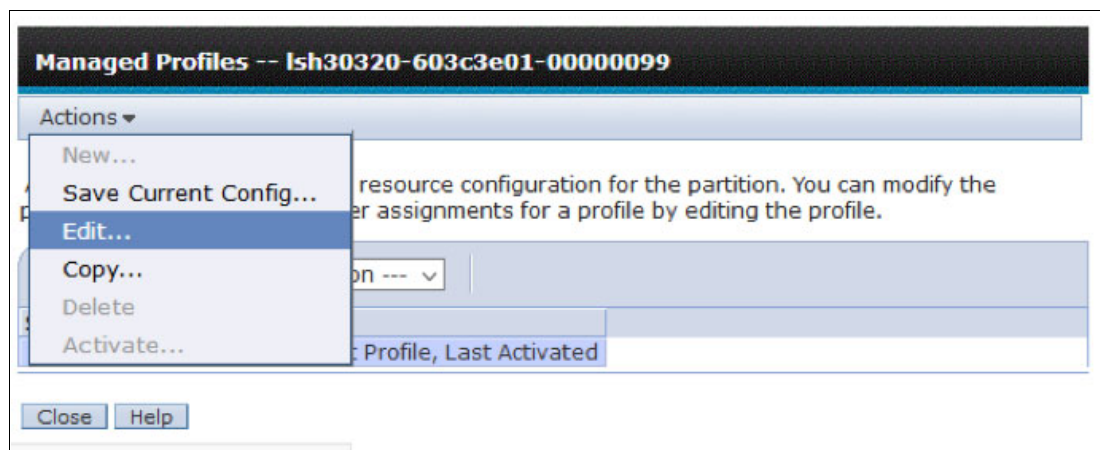

Figure 3-1 Managing Profiles window: Creating a copy of a profile
2. Select the profile to be changed and select **Actions** → **Edit**. Alternatively, create a copy of the profile, and then change the new profile, as shown in Figure 3-1.